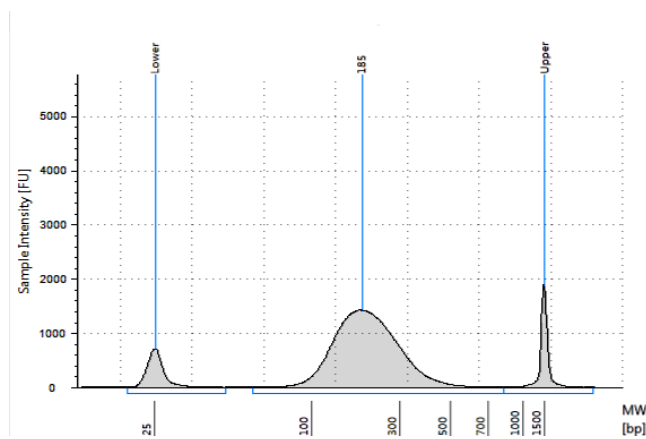

Figure 5 Analysis of sheared DNA using a D1000 ScreenTape.
- 5 Verify that the electropherogram shows the peak of DNA fragment size positioned between 150 to 200 bp. A sample electropherogram is shown in **Figure 5**.